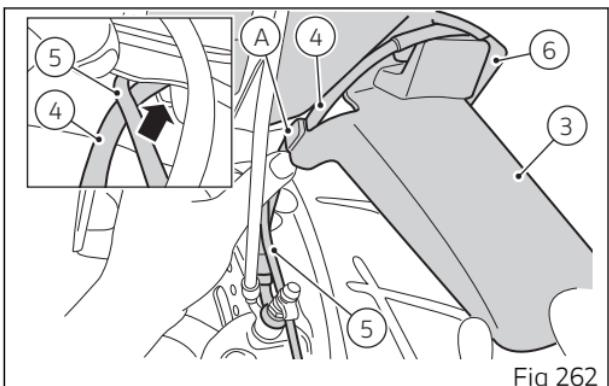

Fig 262
Position the front semi-mudguard kit (3) on the front mudguard (6), housing the front brake pipe (4) and the front phonic wheel cable (5) as shown in the figure (Fig 262).